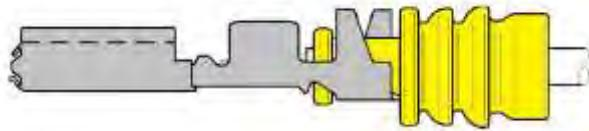

Figure 132
(10) Close the handles of the tool until the contact is lightly held by the die set but is not deformed to the point where the wire cannot enter freely.
(11) Insert the wire and wire seal into the crimp barrel of the contact until it butts against the spring-loaded locator. Ensure the wire and wire seal are positioned correctly in the contact (Figure 132). Contact not shown in crimper for clarity.